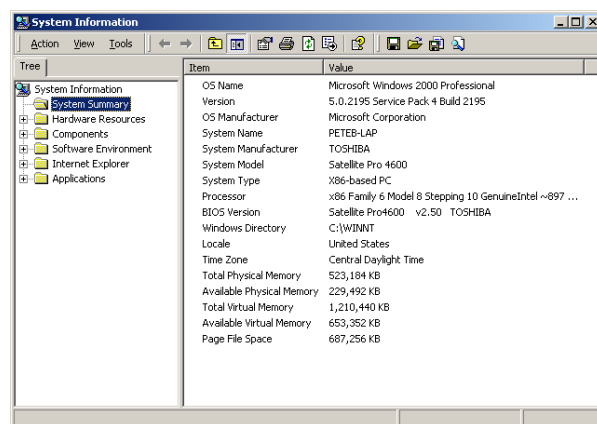

Figure 5-115 System Information Dialog Box
2. Click **System Info**. The **System Information** dialog box opens. See Figure 5-115.